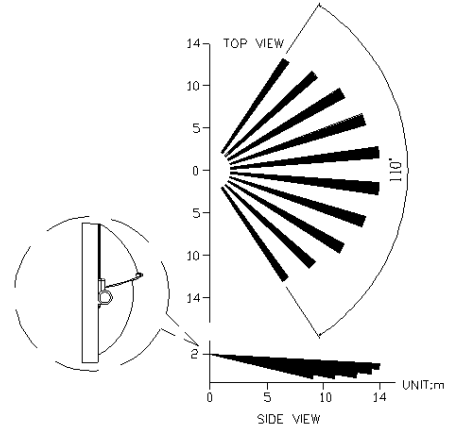

FIGURE 7a
Select a location for the unit based on the coverage angles shown in FIGURE 7a, 7b, 7c.
- For longest detection area, hinge the PIR cover upward (the closed position) FIGURE 7a.